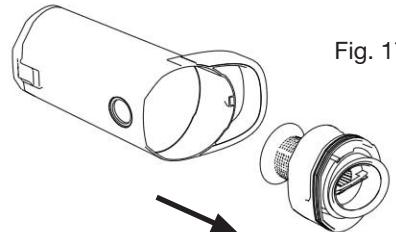

Fig. 17
2. Remove the filter unit (Fig. 17).